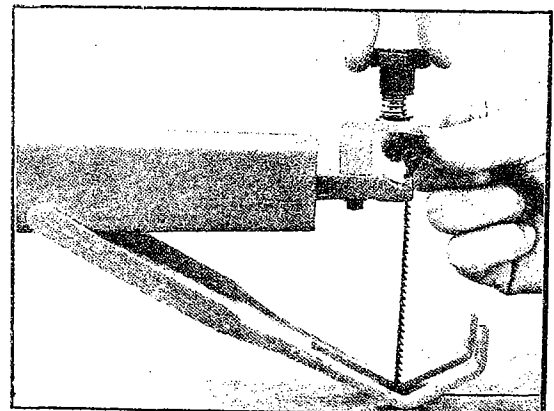

FIGURE 5
1. Loosen the lock knob until the blade assembly can be removed from the rocker arm. See Figure 5.